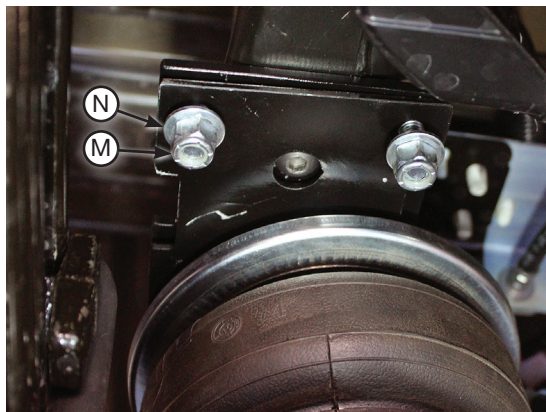

fig. D.22
8. Before proceeding, make sure that the 90-degree fittings are pointing inboard toward the center of the vehicle. While raising or lowering the axle or body of the vehicle, align the previously installed upper air spring bracket carriage bolts with the frame bracket so the carriage bolts protrude through the bracket. Cap the carriage bolts with the 3/8" flat washers (N) and 3/8"-16 nylon lock nuts (M) (Fig. D.22). Snug the nuts down first then torque to 31 lb.-ft. (42Nm). Raise the axle or lower the body and remove jack stands.